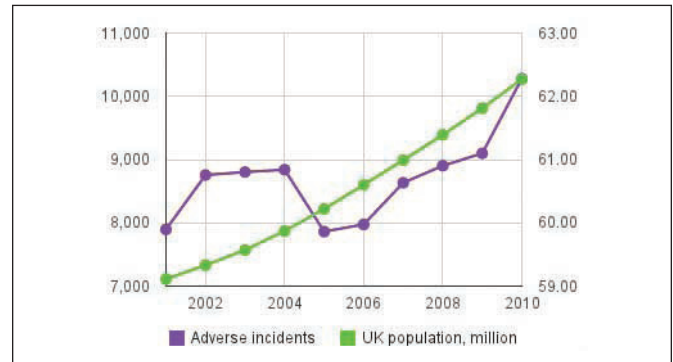

Figure 2: UK Adverse Incident and Population Trends
The chart shown in Figure 2 shows adverse incidents by year, based on MHRA (UK) Annual Adverse Incident Reports from 2007 (which includes data back to 2001, and 2010